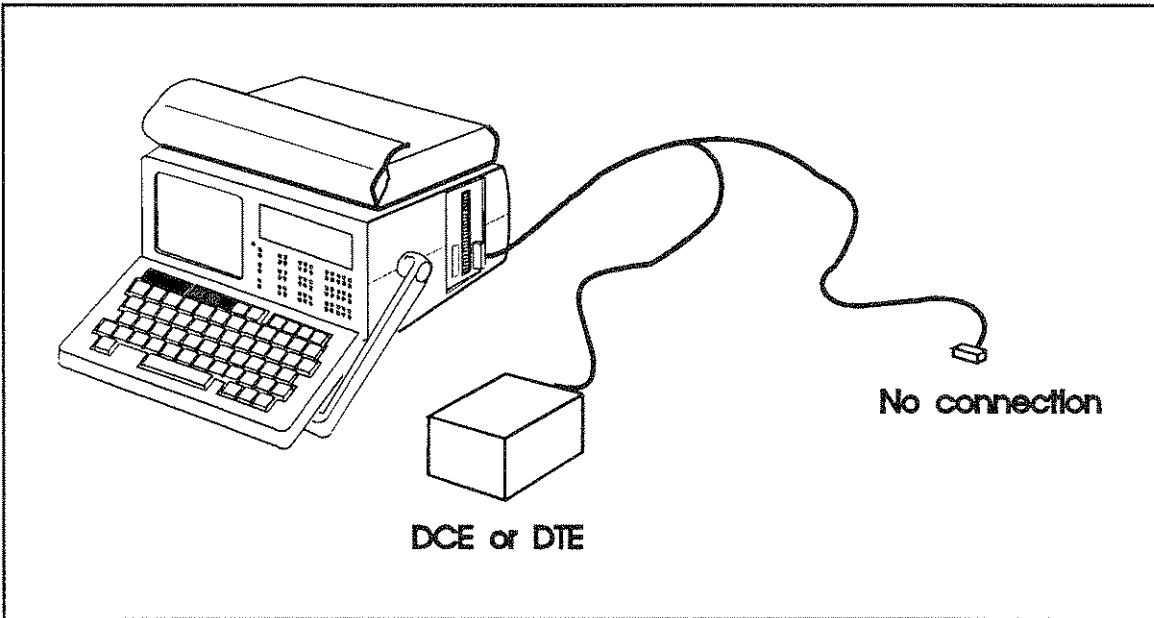

Figure 2-10. Hook up to Simulate
1. Connect the HP 4957A to the link to be evaluated using the Y-cable (see Figure 2-10). Turn off the power if you need to connect an external interface pod and turn the power back on.